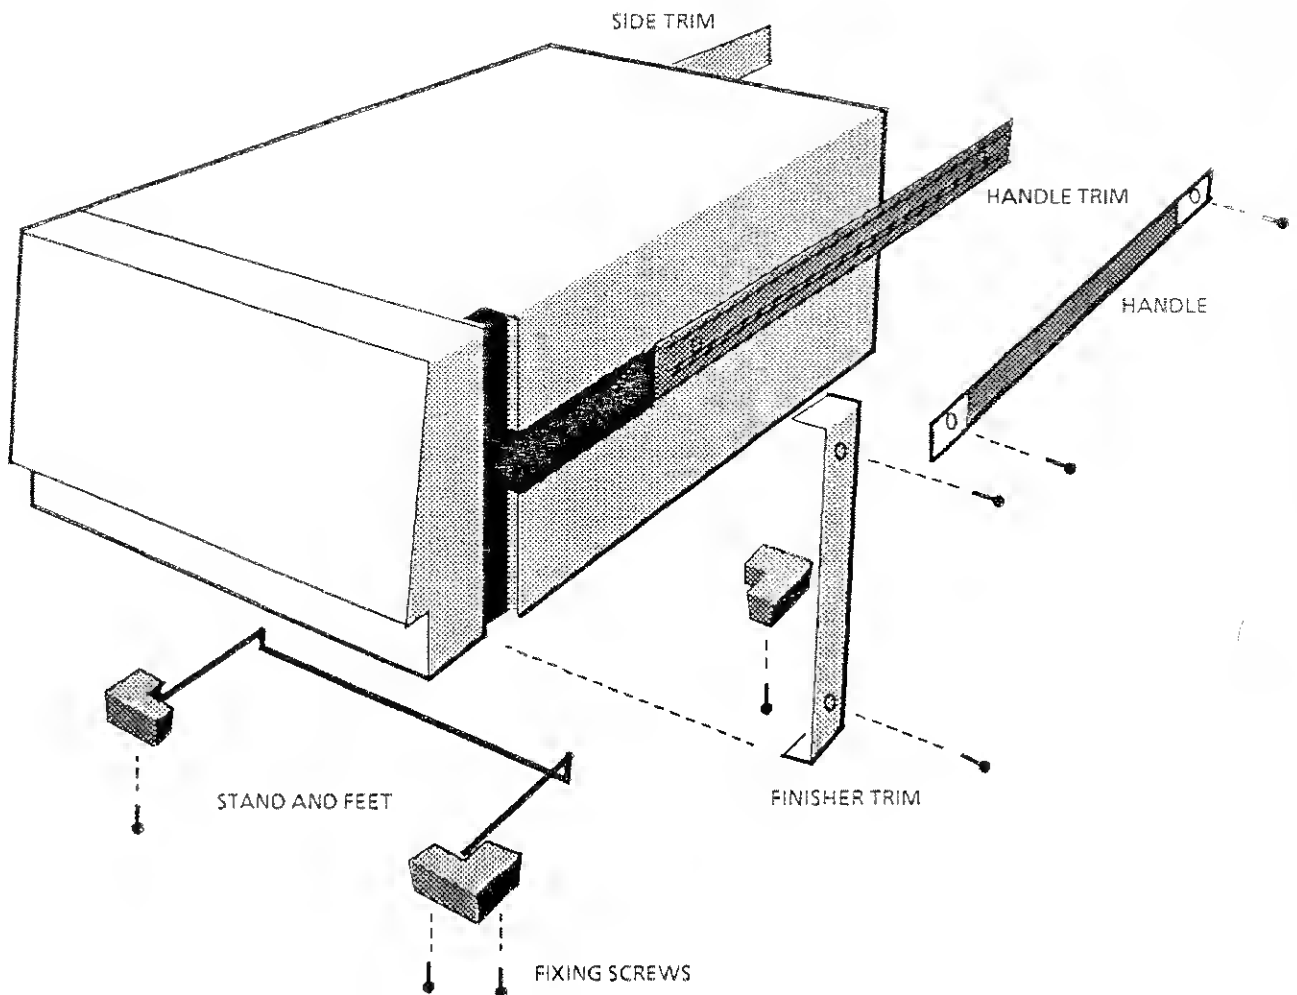

Fig 2.5 Removal of trims, handle, feet, and tilt bar
1. As shown in Fig. 2.5, remove the following items from the instrument: